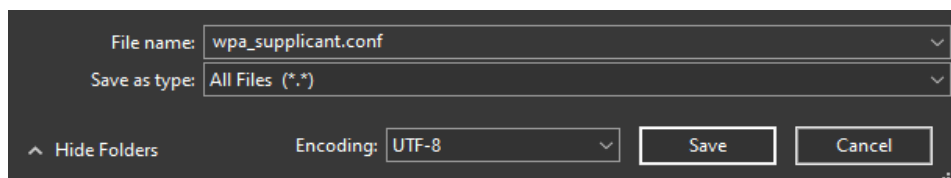

Figure 7. How to save the wpa_supplicant.conf file
- Go to **File > Save as**, name it “**wpa_supplicant.conf**” and in **Save as type**, choose: **All Files (*.*)** as shown in Figure 7.